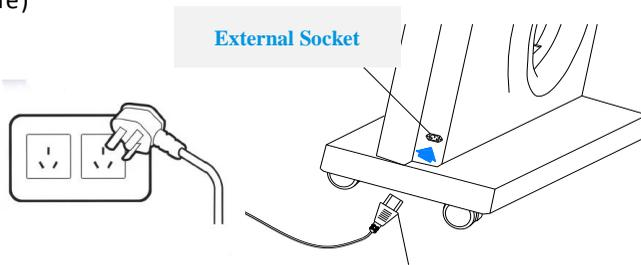

Figure 3 Power Connection Diagram
- 4.3 As shown in Figure 3, insert the connection port of the external power cord tightly into the power cord socket on the side of the machine, and then plug the plug on the other end of the power cord into the power outlet. (Users in mainland China use 220V 50HZ AC power outlet)